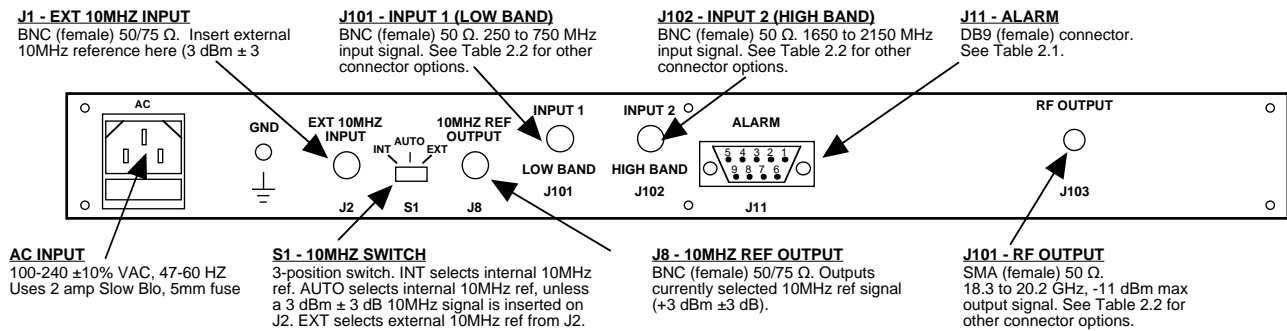

FIGURE 2.1 2115-202 Rear Panel I/O's
Figure 2.1 shows the input and output connectors on the rear panel.
1. Connect a -11 dBm maximum composite signal (250-750 MHz) to INPUT 1, J101 (Figure 2.1).
2. Connect a -11 dBm maximum composite signal (1650-2150 MHz) to INPUT 2, J102 (Figure 2.1).
6. Select either INT (for internal 10MHz ref), AUTO (for internal 10MHz ref UNLESS a external 10MHz, 3 dBm signal is connected to J2), or EXT (for external 10MHz, 3 dBm ref that is inserted at J2) on rear panel switch, S1 (Figure 2.1).
8. Check that a 10MHz, 3 dBm \pm 3 dB signal is present at the 10MHZ REF OUTPUT, J8 (Figure 2.1).